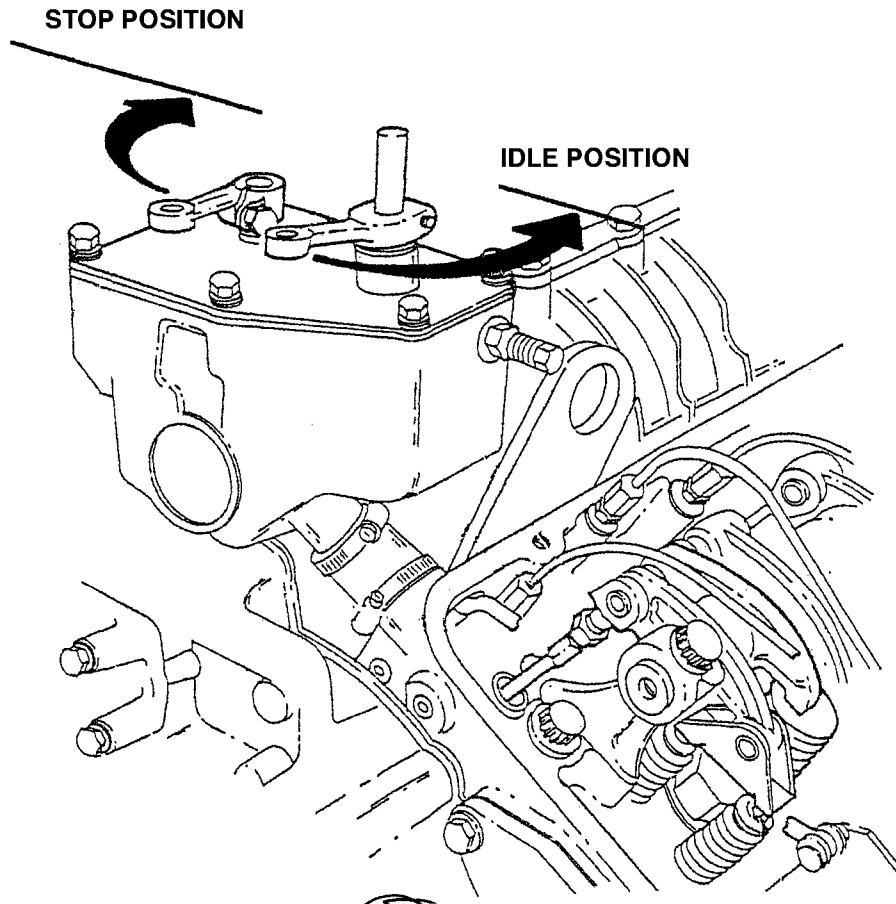

Figure 4-7. Throttle and Shutoff Levers
30. If the engine runs away (rpm is maximum) and the throttle is in the idle position, first move shutoff lever on governor to close position then cut off air intake (use newspaper or book). See Figure 4-7 for position of shut-off lever. Then troubleshoot the problem. Refer to TM 9-2815-205-34 if it is an internal engine problem. Refer to TM 9-2350-247-20-1, TM 9-2350-366-20-1, and TM 9-2350-277-20-1 if it is an external engine problem.